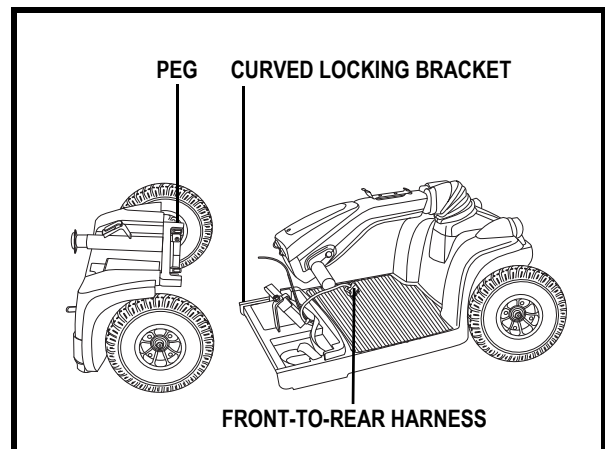

Figure 21. Frame Sections
1. Position the front and rear sections of your PMV as shown in figure 21.
2. Align the lower slots of the front section with the corresponding pegs on the front of the rear section. See figure 21.
**WARNING!** Position the front-to-rear harness so it will not become pinched between the frame halves when pivoting the rear section forward. See figure 21.